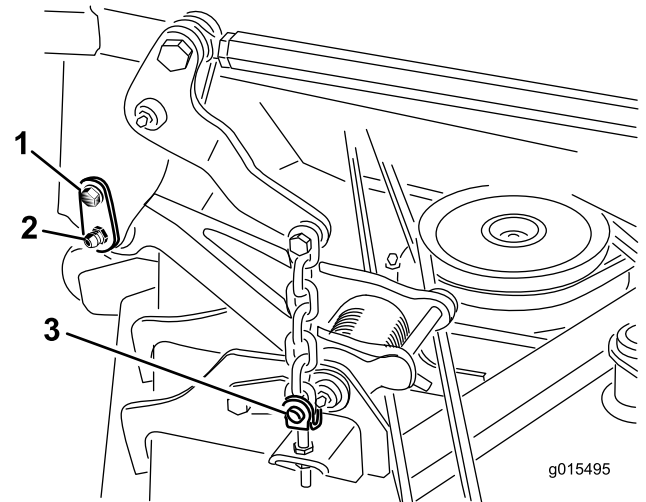

Figure 1
- Remove the shoulder screw that secures the retainer pin to the carrier frame (Figure 1).
8. Remove the 4 ring pins and clevis pins that secure the deck lift chains to the adjustment clevises on the cutting deck (Figure 1).